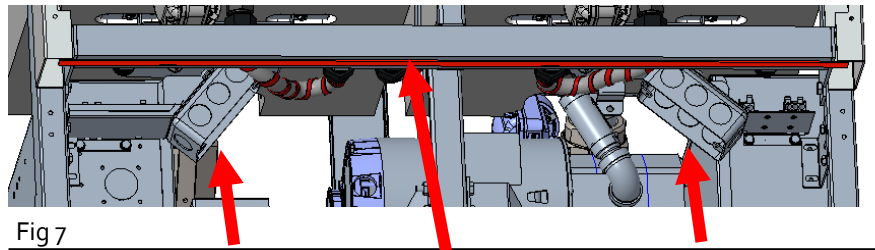

Fig 7
10. Mount handy boxes in location shown on rear of contactor boxes above the power cords (Figure 7).
11. Using one of the 36-inch heaters from the kit and a length of foil tape, add heater to bottom side of manifold, wrapping extra length around the ends and over the top securing in place with foil tape. (Figure 7).
place with foil tape. (Figure 7).